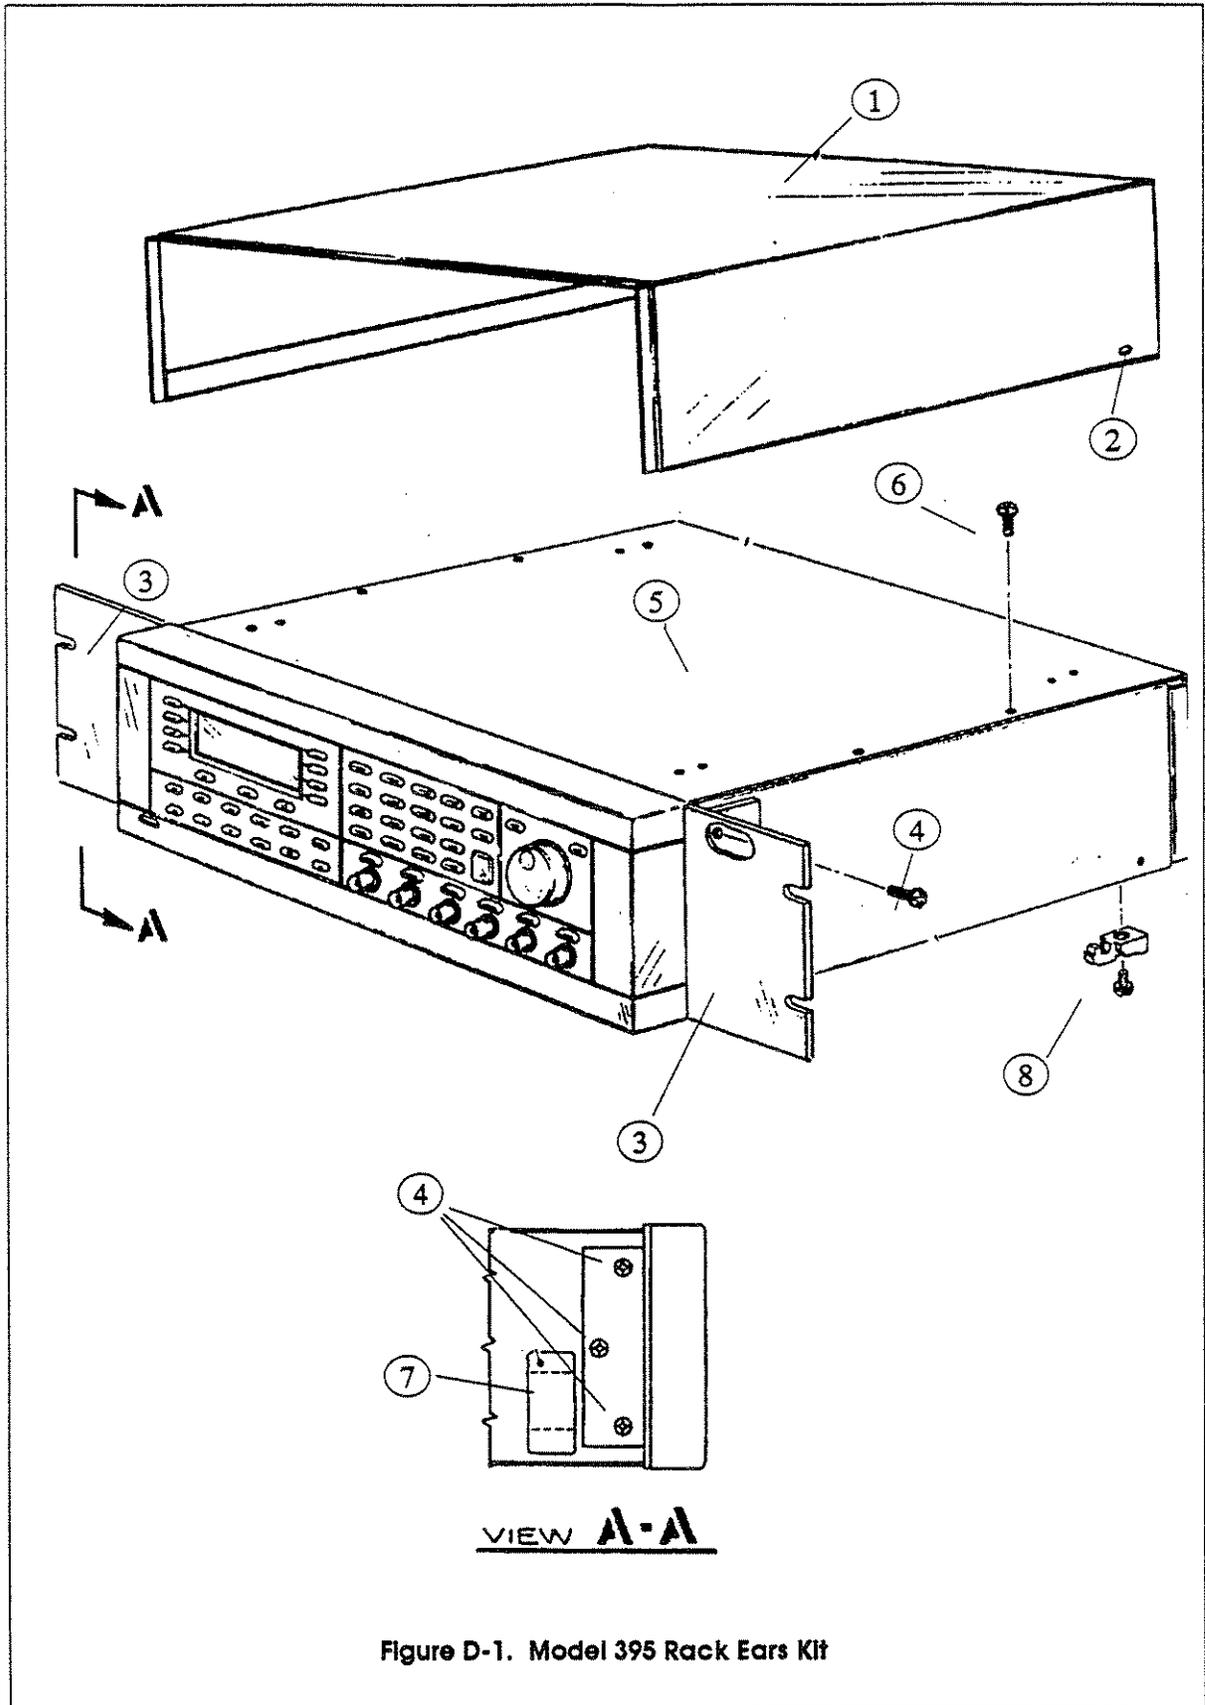

Figure D-1. Model 395 Rack Ears Kit
| Description | Qty | Wvtk P/N | Fig. D-1 Ref. |
Refer to Figure D-1 Model 395 Rack Adapter Ears on the following page while performing these step-by-step instructions.
1. Install the new top cover (item 5) using four 6-32 x 1/4 screws (item 6).
2. Mount the Rack Ears (item 3, two places) as shown in figure D-1 using six 10-32 x 1/2 screws (three per side).
3. Remove the adhesive backing from the cover plate, and install the cover plate (item 7) over the hole shown in View A-A.